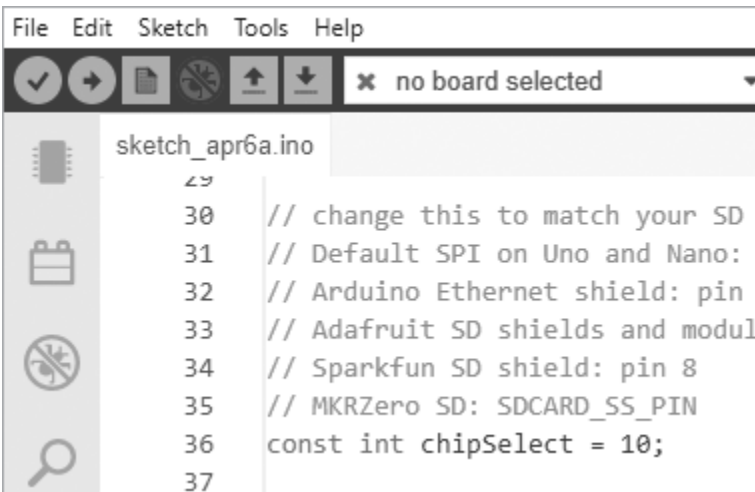

Figure 7-24: Altering the test sketch
- Scroll down to line 36 in the sketch and change the value of `const int chipSelect` from 4 to 10, as shown in Figure 7-24. This is necessary as the pin used varies depending on the SD card hardware. Now upload this sketch to your Arduino.